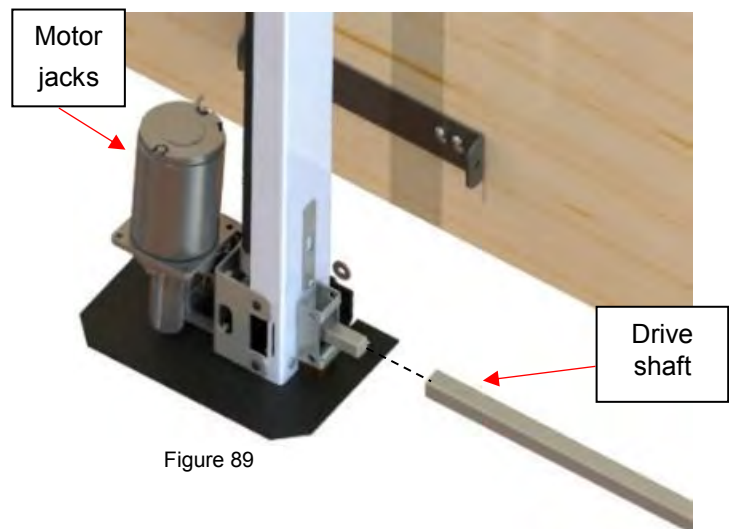

Figure 89
- 5) Slide the drive shaft over the square shaft of one motor side jack (Figure 89)